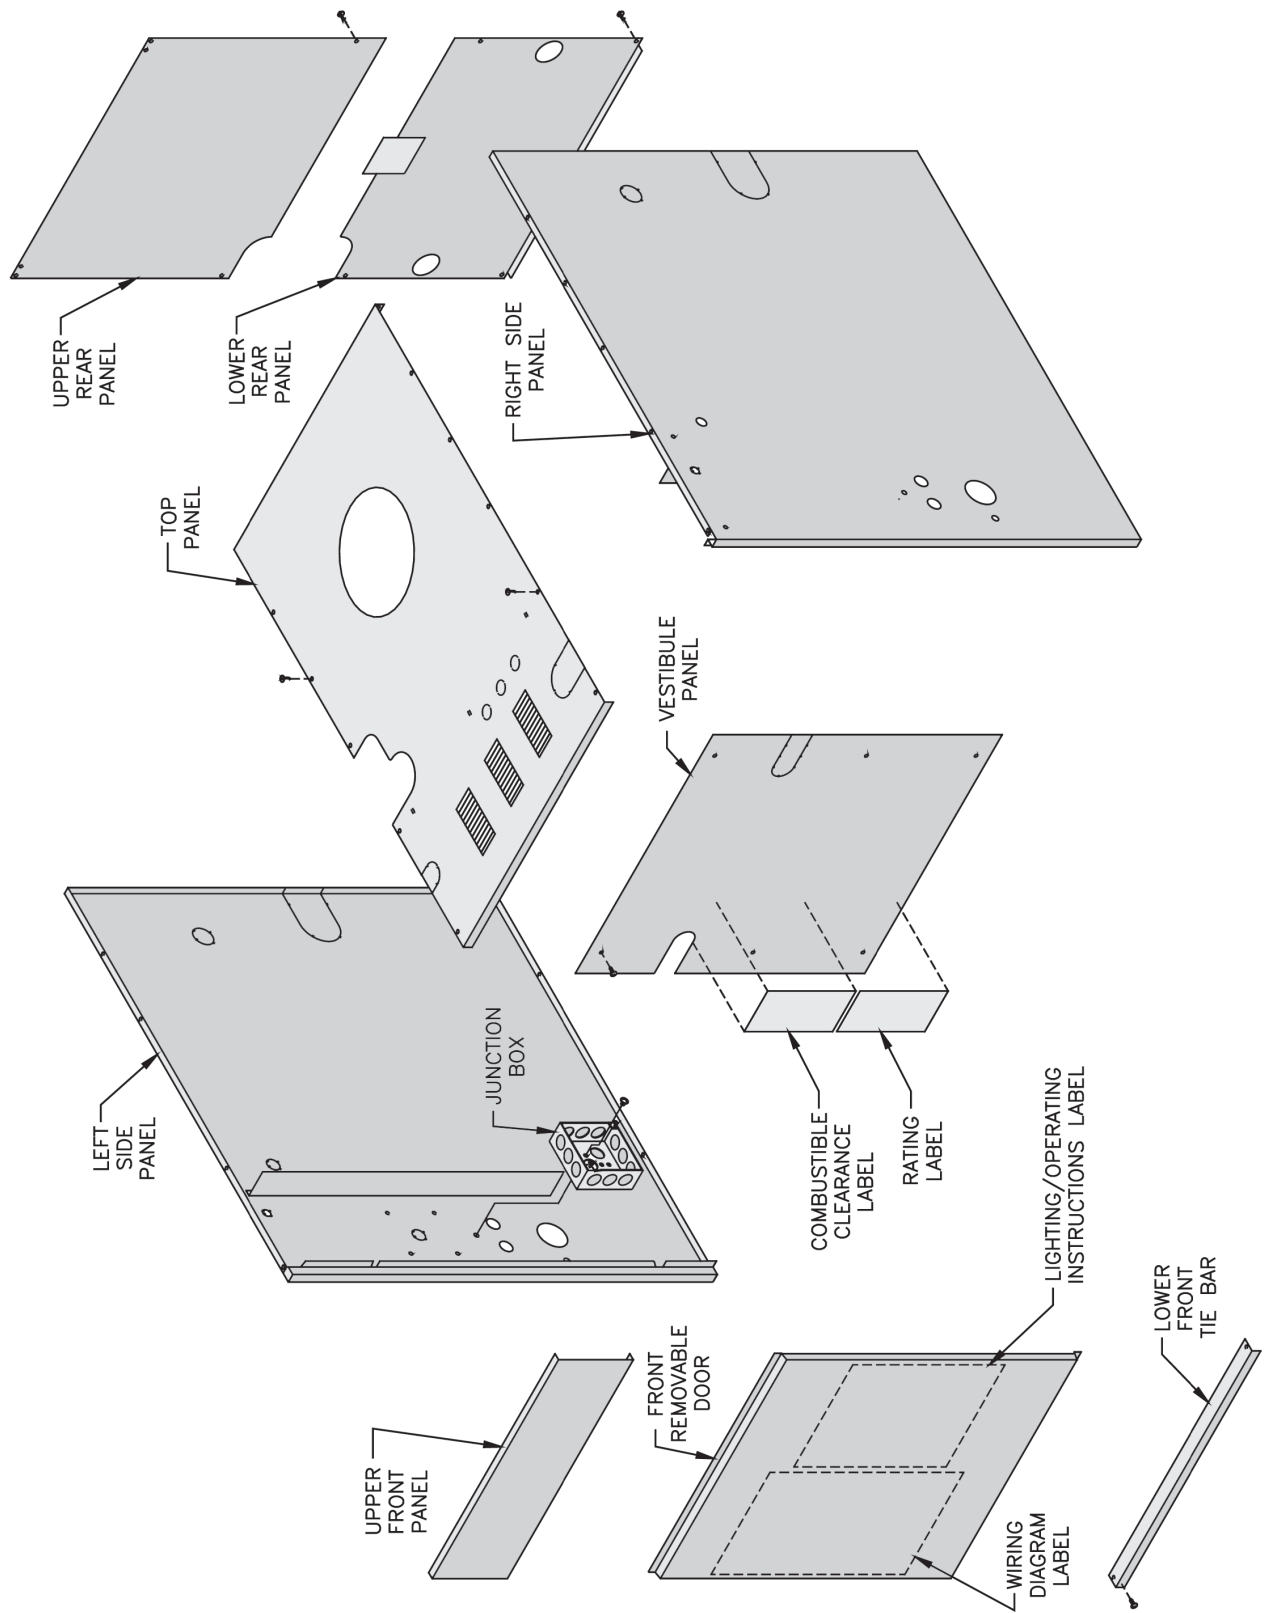

Figure 8: Jacket Assembly
P. Install Jacket. See Figure 8.
Q. Install Junction Box. See Figure 8. Attach junction box to inside of Left Side Panel with 1/4" - 20 x 1/4" lg. machine screw (located in Combination Boiler Parts and Control Carton).
- a. Attach Ignition Control Mounting Bracket to Jacket Vestibule Panel using two (2) #8 x 1/2" sheet metal screws.
- b. Attach Honeywell Ignition Module to Mounting Bracket using two (2) #8 x 1/2" sheet metal screws.
4. Mount Transformer (continuous circulation) or Control Center (intermittent circulation) to Junction Box. See Figure 8.